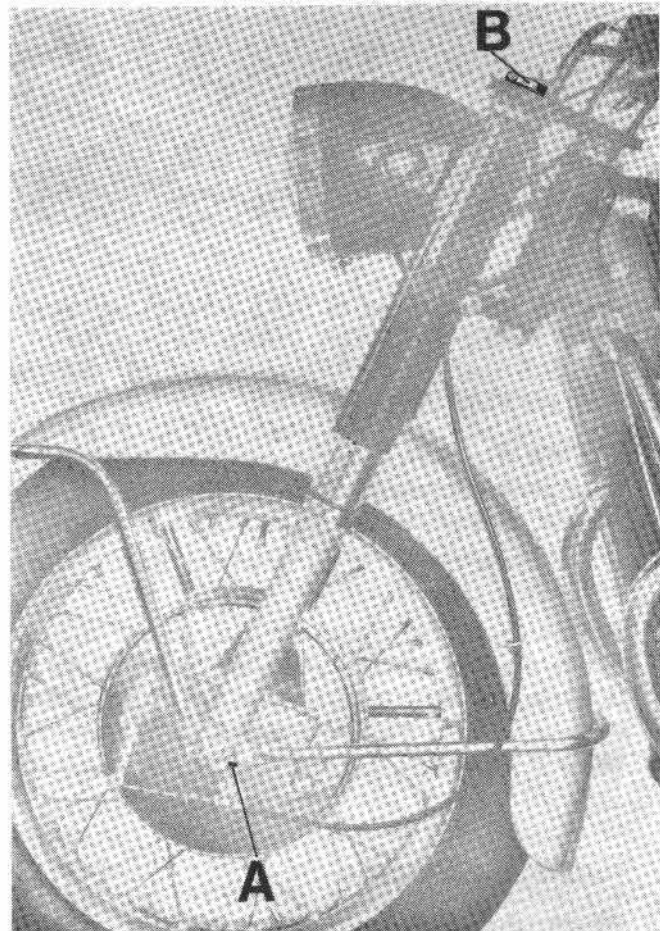

Fig. 98
- drain oil from dampers (after stripping down fork, oil can be drained by removing drain plugs (see A on Fig. 98) from both fork covers).
- thru filling plug (see B on Fig. 98) pour into each fork tube 0.160 liters 5.4 oz.) of « SHELL Tellux 33 » oil.